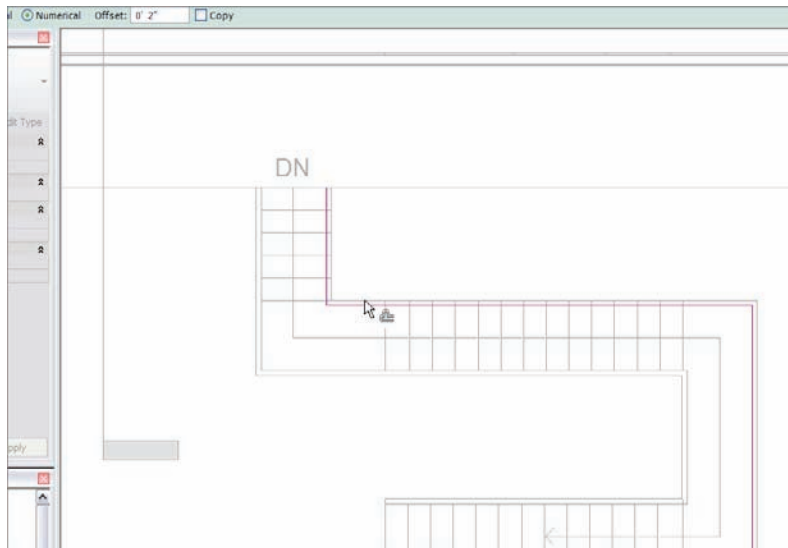

FIGURE 10.68 Offset the railing line down 2" (50mm) from the original location.
1. In the plan, select the top railing, as shown in Figure 10.68.
3. On the Edit panel, click the Offset button, as shown in Figure 10.68.
7. Make sure the dotted alignment line is facing the inside so the sketch line moves as shown in Figure 10.68. (If it is not, press the spacebar to flip it.)